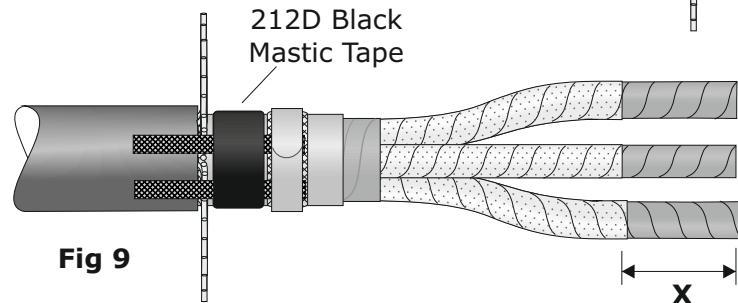

Fig 9
13. Carefully remove the metalized paper screens to dimension "X" as shown in Fig 9 and Table 1.